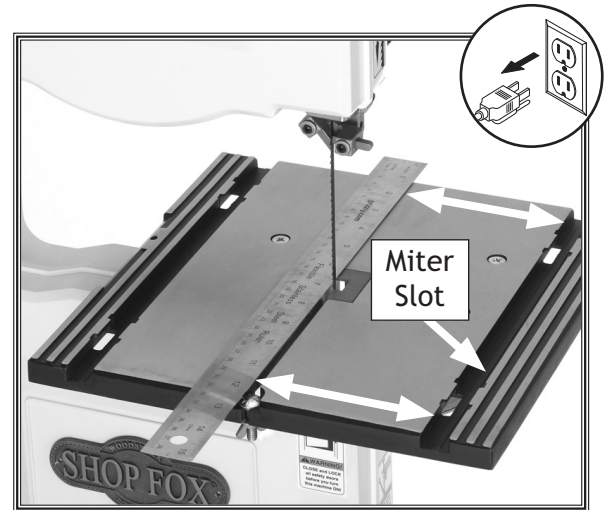

Figure 35. Table alignment.
4. Use a fine ruler to gauge the distance between the straightedge and the miter slot. The distance you measure should be the same at both the front and the back of the table (see **Figure 35**).